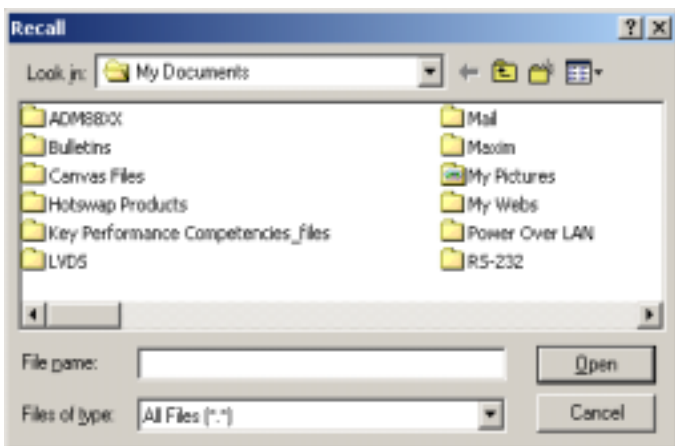

Figure 66. Recall file to translate
Step 2: The Open file dialog box of figure 66 will appear. Use this window to navigate to the file that needs to be translated (Pre-version 3 file). Click *Open* when ready.